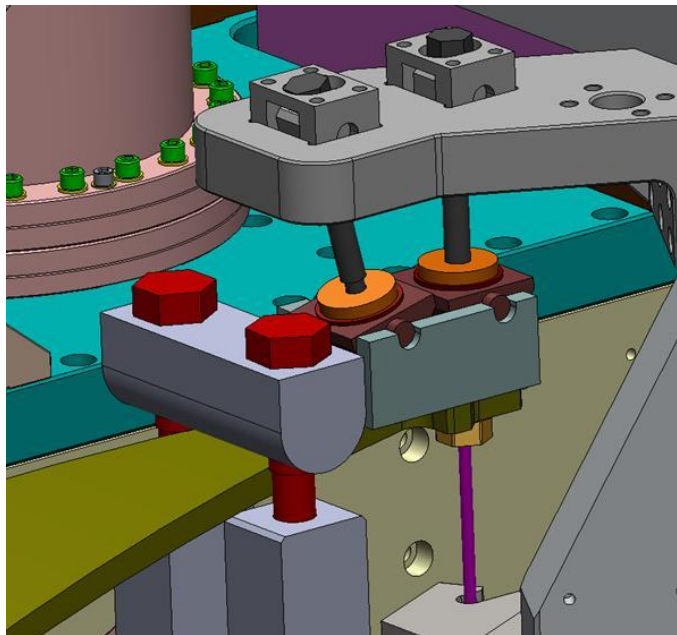

Figure 132: Stage 0-1 Blade fully loaded
- Slide D0902103 Stage 0-1 Flexure Rod Assembly into place until D0901500 Stage 0-1 Flexure Rod Shim makes contact with D0901541 Stage 0-1 Blade Spring tip internal hole (see Figure 132).